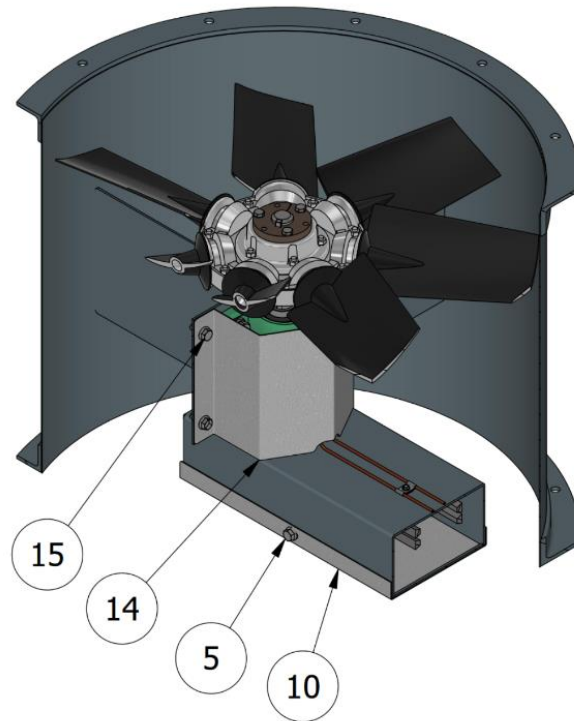

Figure 4 - Cutaway View of Fan Housing
- Remove inner belt cover bolts and inner belt cover, shown in Figure 4.
- Inside the fan housing, remove the bearing cover indicated in Figure 4.